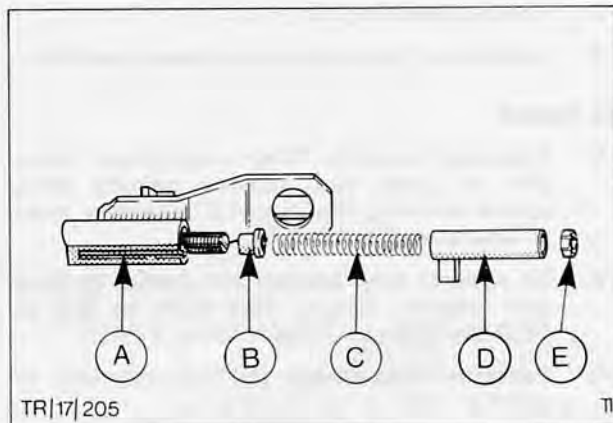

Fig. 7. Lower selector lever assembly
2. Unscrew locknut on operating cable, withdraw selector pawl and, spring from the bottom end of selector lever, Fig. 7.